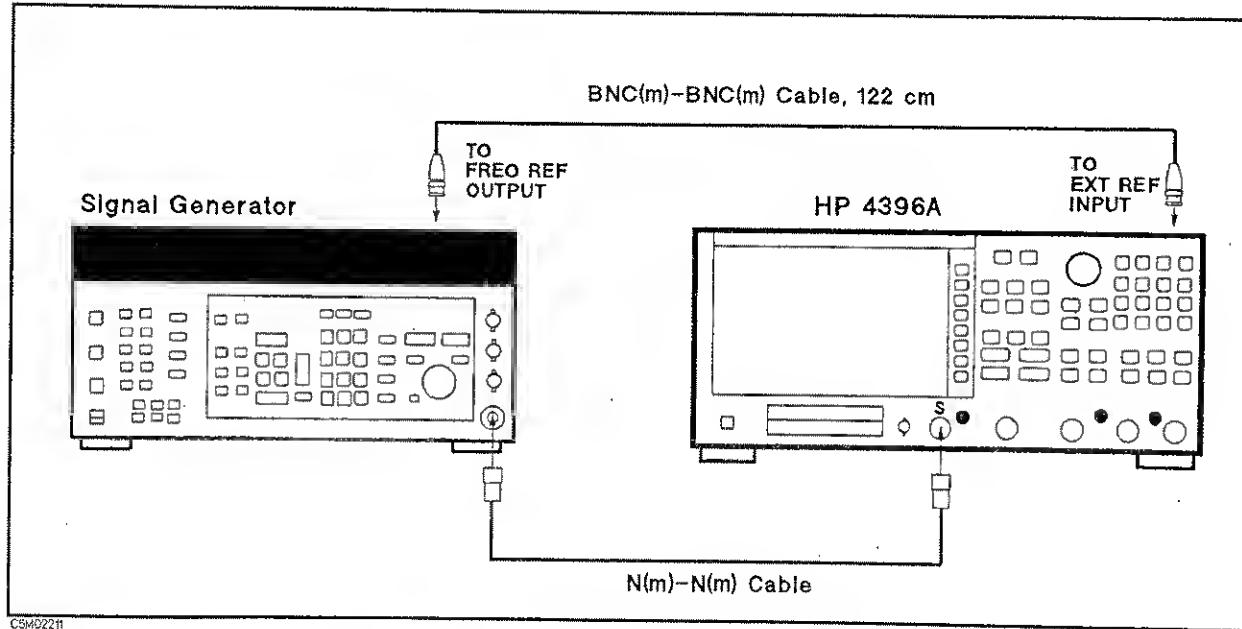

Figure 2-31. Other Spurious Test Setup
1. Connect the test equipment as shown in Figure 2-31.
Connect the signal generator's 10 MHz frequency reference output to the HP 4396A EXT REF Input on the rear panel as shown in Figure 2-31. With this configuration, both the signal generator and the HP 4396A are phase locked to the same reference frequency to obtain a stable measurement.